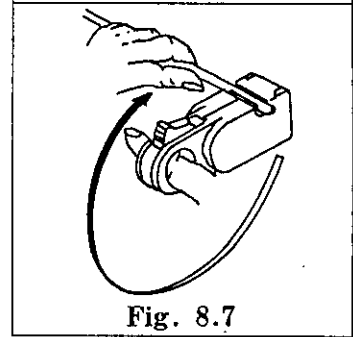

Fig. 8.7
Step1: Push the cam wheel three times and turn it in the direction of the arrow (Fig. 8.7, 2 or 3 times).
With the above Steps 1 to 3 in mind, place the cable in the cable stripper, leaving about 10 mm from the tip outside of the stripper (Fig. 8.7), hold it firmly with the middle, ring and little fingers of your left hand so that the cable does not move during the rotation of the stripper. Put the index finger into the hole, follow Step 1, proceed to Step 2 when the resistance to the rotation has stopped, and then follow Step 3 when the resistance to the rotation has stopped. Thus, follow Step 1 through Step 3.